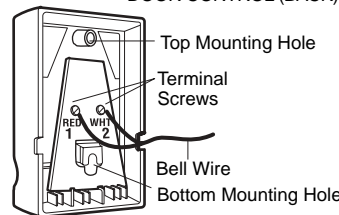

Figure 4 REMOVE COVER
- Remove cover by gently prying at slot in the top of the cover with a small flat head screwdriver (Figure 4). Fasten with 6ABx1-1/4" self-tapping screws (drywall installation) or 6-32x1" machine screws (into gang box) as follows: